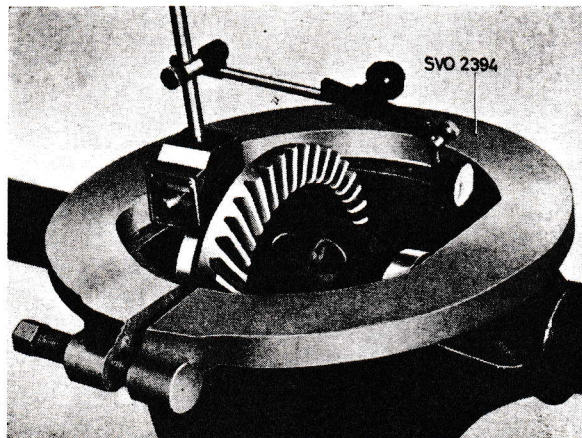

Fig. 11. Expanding the drive pinion carrier.
7. Fit tool SVO 2394 in the holes in the drive pinion carrier as shown in Fig. 11. Fit an indicator so that the expansion of the drive pinion carrier can be read off. Tighten the tensioning screw so that the carrier is expanded not more than 0.3 mm (0.012"). Remove the indicator. Lift out the differential case with the ring gear.
11. Fit tool SVO 2394, see Fig. 11 and an indicator on the drive pinion carrier. Tighten the tensioning screw so that the drive pinion carrier is expanded by not more than 0.3 mm (0.012"). Remove the indicator. Fit in the differential with bearings. Then remove the tool SVO 2394.